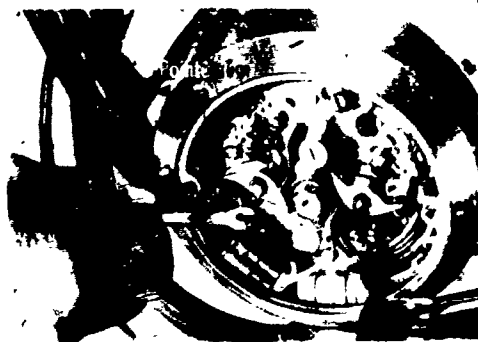

FIGURE 1
3. Adjust the points according to service manual specifications (Figure 1)